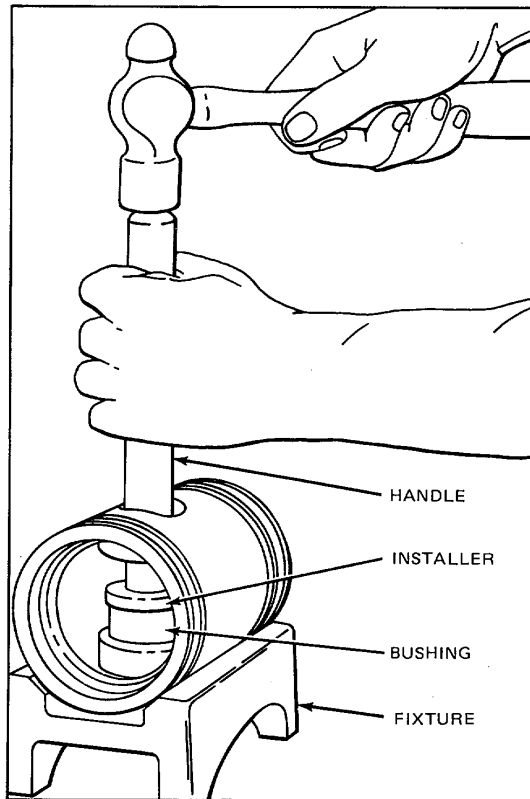

Figure 5. Removing or Installing
2. Drive each bushing from the piston with bushing remover J 4972-4 and handle J 1513-2 (Fig. 5).